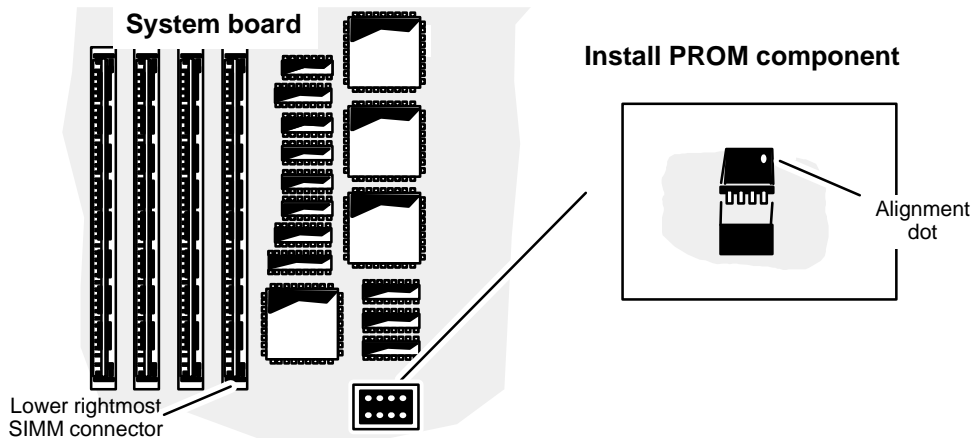

Figure 10-9 Installing the PROM Component
2. Match the notch on the PROM component with the notch on the replacement system board socket. Then align the pins of the PROM component with the holes in the socket as shown in Figure 10-9, and insert the PROM component into the socket. If your PROM component has no notch, align the component with the round surface dot in the upper right corner, as shown in Figure 10-9.